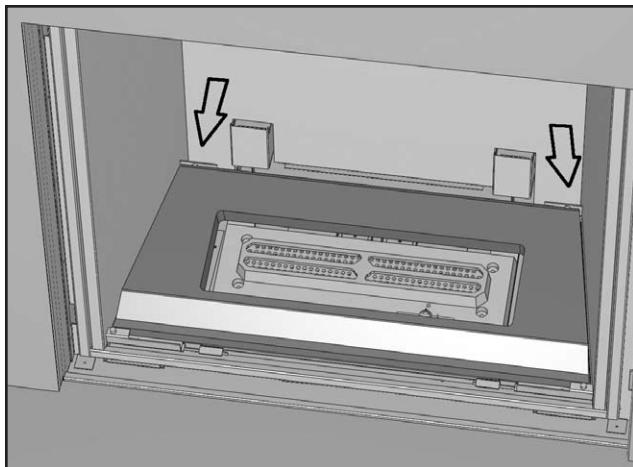
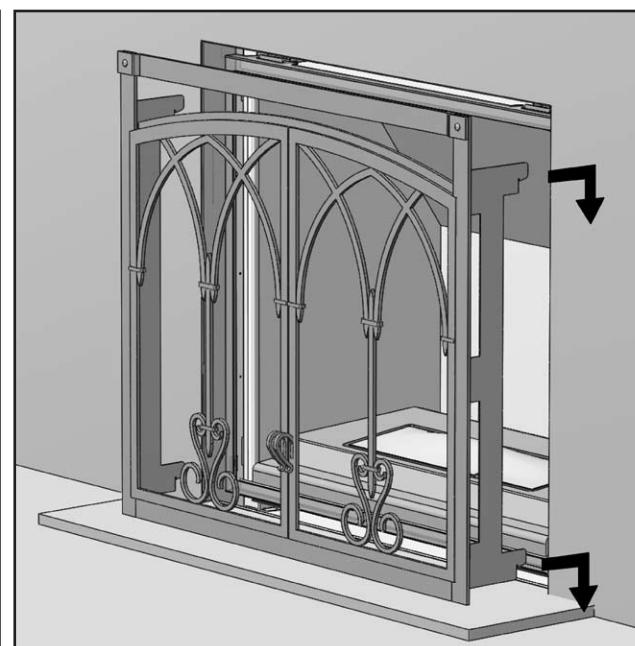
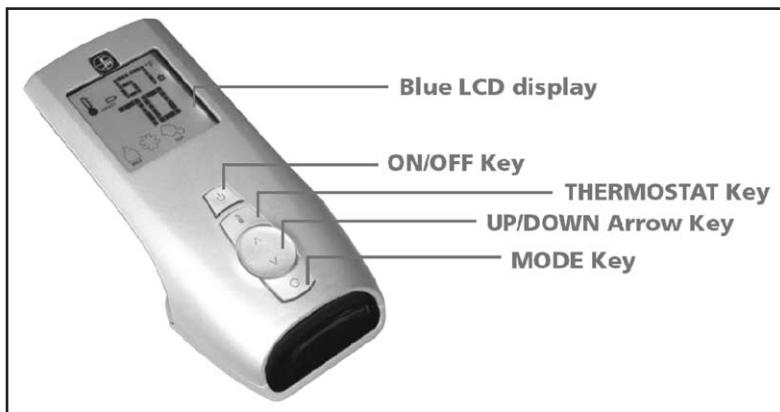

Figure 103 Installing Burner Cover.
Figure 105: Optional Front Being Installed.
Figure 107: Proflame Transmitter.
The arrows in Figure 103 point at the studs that hold the Burner Cover in position. Place the Burner Cover over the pins and then once aligned with the holes, push the Burner Cover back towards the rear of the firebox. The front of the Burner Cover is held in place by the permanent magnets installed in step 8.
Install the front by lifting it parallel to the fireplace with the mounting bracket hooks pointing towards the fireplace. Slide the hooks all the way into the slots between the Glass Door Frame and the drywall flanges of the fireplace. Pull down on each corner to make sure the hook is engaged with the hanger. Refer to Figures 105 & 106.
The Proflame Transmitter uses a streamline design with a simple button layout and informative LCD display (Figure 105). The Transmitter is powered by three (3) AAA type batteries. A Mode Key is provided to Index between the features and a Thermostat Key is used to turn on/off or index through Thermostat functions (Figure 107 & 108).
Install the four (4) AA batteries into the receiver battery bay. Note the polarity of the battery and insert into the battery bay as indicated on the Battery cover (+/-). Place the 3-position slider switch in the "Remote" position (see Figure 103). Using the end of a paper clip, or other similar object, insert the end of the paper clip into the hole marked "PRG" on the Receiver front cover (see Figure 107).